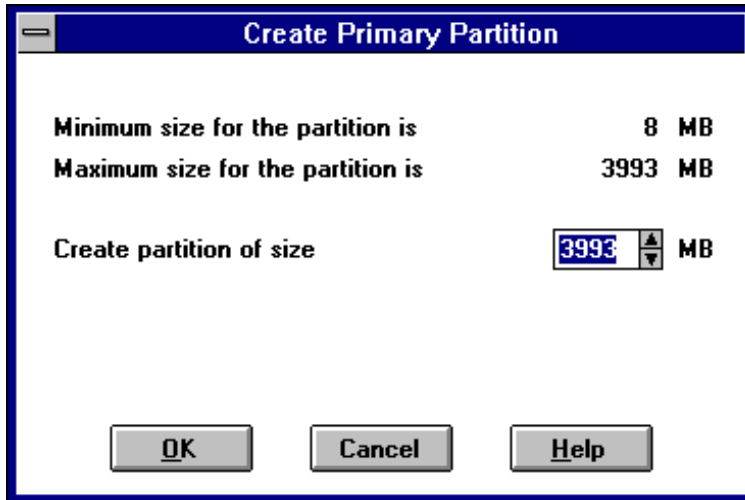
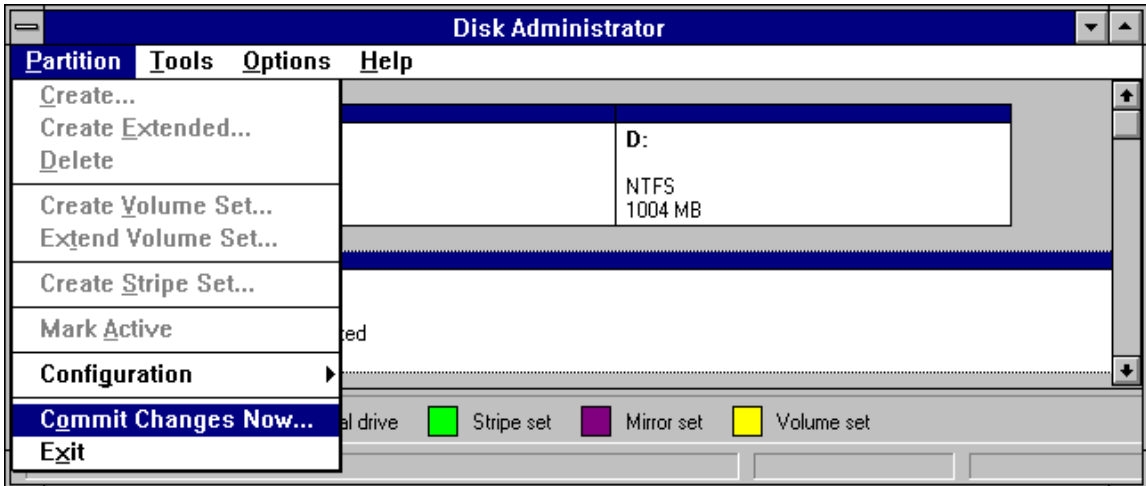

Figure 3.4 Entering the Partition Size
Figure 3.5 Saving the Changes to Disk Configuration
3. On the Create Primary Partition panel, enter the desired partition size (see Figure 3.4), and select **OK**. If the specified partition size is greater than 1024 MB, the Disk Administrator will request confirmation to create the partition.
4. The Disk Administrator panel now shows the new unformatted partition for the selected device. Make sure that the correct partition size is displayed. If the partition size is not correct, repeat steps (1) through (4) to re-enter the correct partition size.
5. Select the **Partition** menu, and select **Commit Changes Now...** (see Figure 3.5). When the confirmation panel appears, select **Yes** to save the changes to your disk configuration.